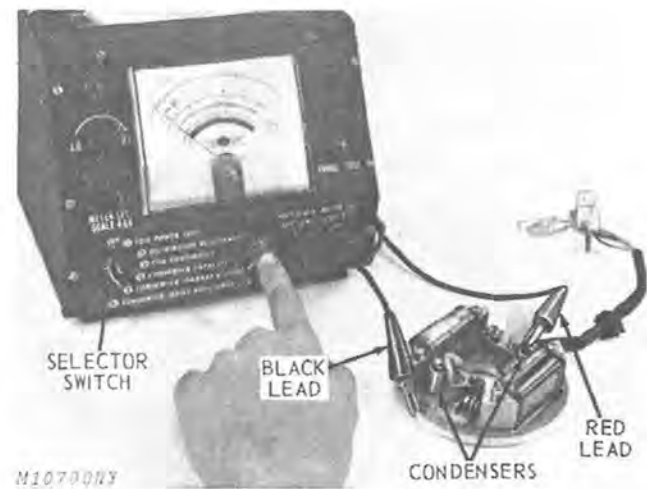

Fig. 21-Condenser Leakage and Short Test
2. Turn selector switch to position No. 5 — Condenser Leakage and Short, Fig. 21.
3. Depress red button and hold for 15 seconds. Read scale No. 5. The needle will move to the right and must return within range of the narrow black bar at the left, Fig. 21.